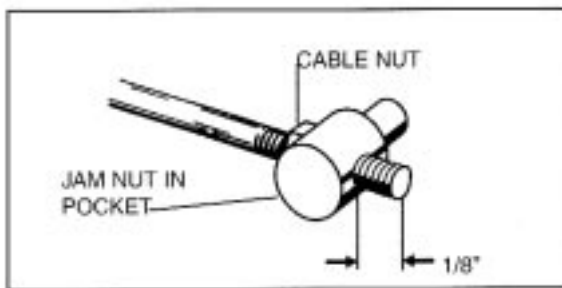

FIGURE 4
1. Use the terminal kit provided to connect the shift and throttle cables to their respective hand levers. Place jam nut into pocket of pivot and then screw the pivot onto the cable rod end until the rod extends through the pivot approximately 1/8i. Secure the pivot by tightening the cable nut against the bottom of the pivot, as shown in Figure 4.